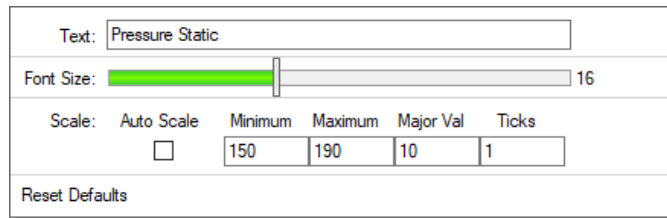

Figure 4.5 Axis Modification Window opened by right-clicking the y-axis
3. Set the Minimum to 150 bar, the Maximum to 190 bar, and Major Val to 10 (see Figure 4.5)